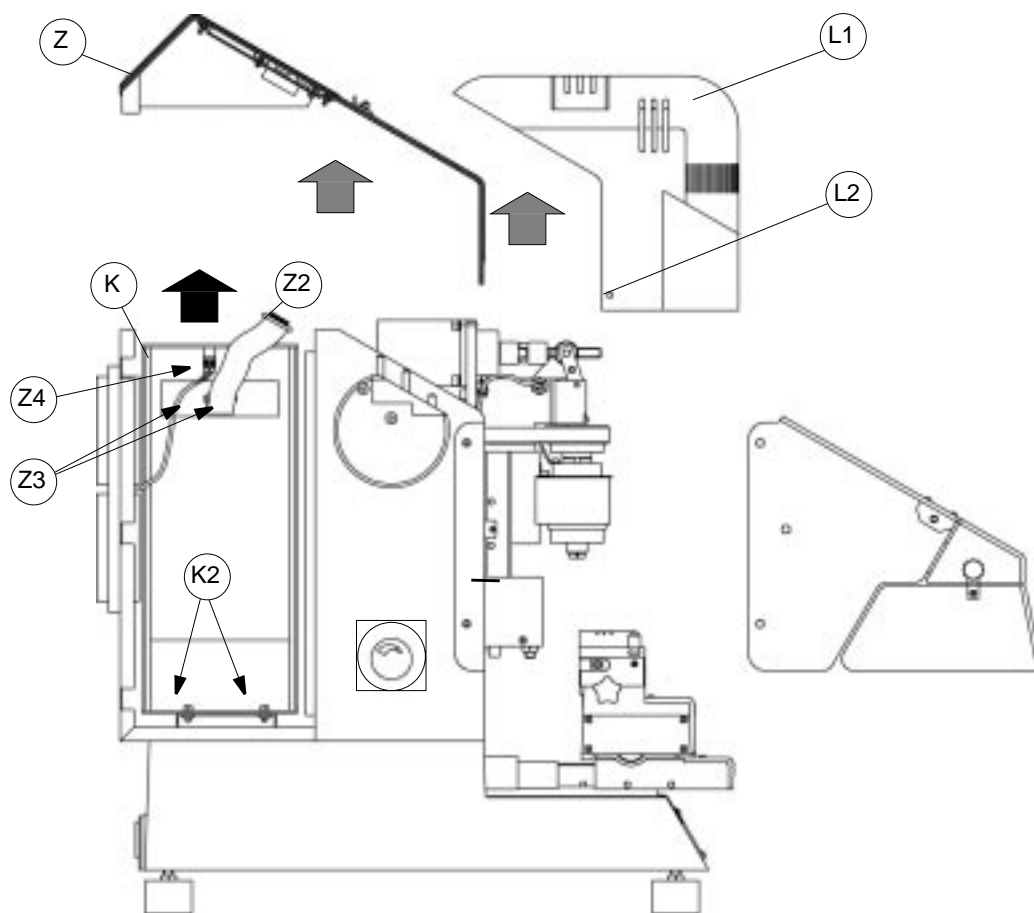

Fig. 46
- 9) remove the two screws (L2) and detach the protective cover (L1) (fig. 46), raising it in the direction of the arrow.
- 10) release the flat cable (Z2) by pushing the two tabs (Z3) outwards (fig. 46).
- 12) disconnect the two fan feed wires from the terminal panel (Z4) (fig. 46).
- 13) remove the four screws (K2) which secure the rack (K) to the machine and pull upwards (fig. 46, page 48).
- 14) to fit the new rack follow the instructions given in reverse order, taking care to connect the fan feed wires (Z4) correctly (the red wire to the terminal marked '+' and the black wire to the terminal marked '-') (fig. 46).